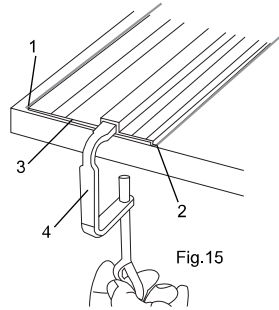

Fig.15
4. Place the clamp(4) on the left hand side of the guide track at each end to hold it firmly onto the workpiece with the left edge on the guide track alignment marks(1).(Fig.15)